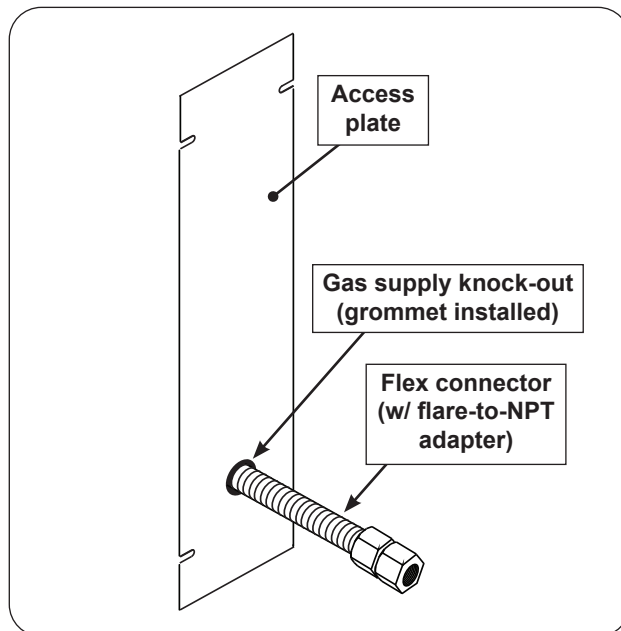

Fig. 23-1 Access plate view & install orientation
2. Remove the plastic grommet (attached to the flex connector) and insert it into the newly created opening. Then route the flex connector through the opening. See Fig. 23-1 and 23-2.